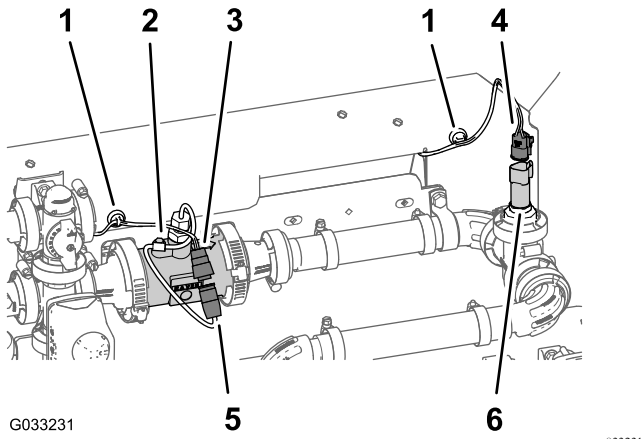

Figure 128
1. Route the connectors of the 203 cm (80 inches) wire harness branch labeled **Flow Meter** and **Pressure Transducer** rearward of the manifold mount (Figure 128).
2. Connect the 3-socket connector of the 203 cm (80 inches) wire harness branch for the flow meter (not labeled) into the 3-pin connector of the harness of the flow meter (Figure 128).
3. Connect the 3-socket connector of the 203 cm (80 inches) wire harness branch for the labeled **Pressure Transducer** into the 3-pin connector of the pressure transducer (Figure 128).
4. Adhere the magnet-harness anchors for the flow meter and the pressure transducer onto the surface of the manifold mount (Figure 128).